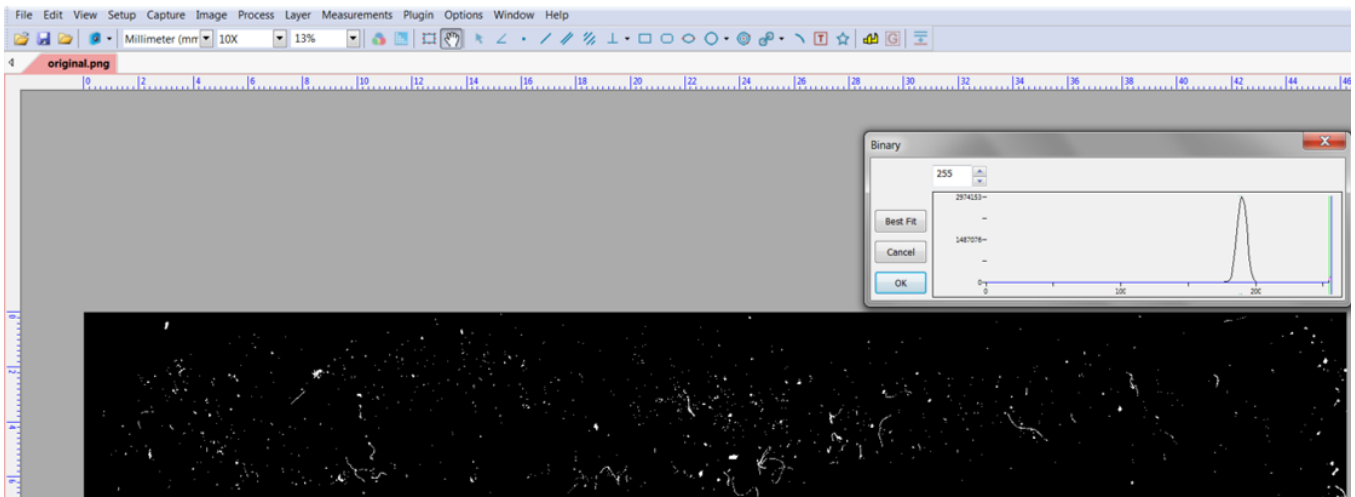

Figure 48. Conversion to a binary image
- 17) Drag the binary threshold bar toward the right or use the arrow keys. If the value of a pixel is greater than the selected threshold, the pixel will be turned white. Otherwise, it will be turned black. Adjust the threshold value so that the background is completely black and the particles are white. If the threshold is moved too far to the right, the particles will begin to shrink or disappear. The optimal threshold value will vary by setup. The maximum threshold value, 255, was used for the sample in Figure 48.